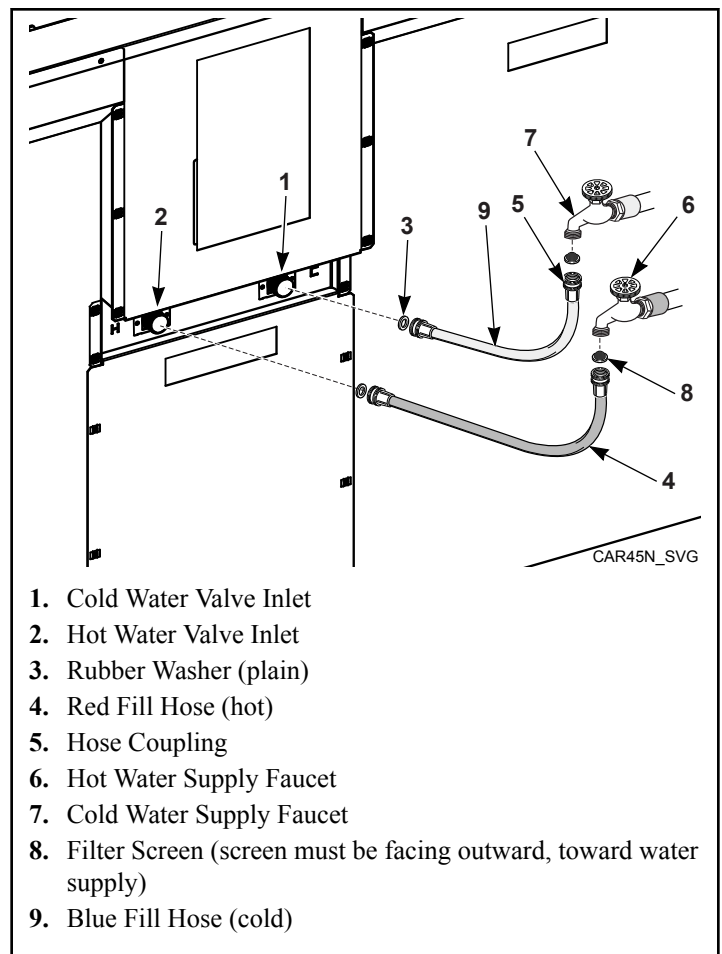

Figure 9
1. Before installing hoses, flush the building's water system at the machine connection valves for at least two (2) minutes.
2. Remove the two (2) plain rubber washers and two (2) filter screens from the accessories bag supplied with the machine.
3. Install one (1) plain rubber washer onto one end and one (1) filter screen into the other end of each fill hose. The screens must be facing outward toward the water supply. Refer to *Figure 9*.